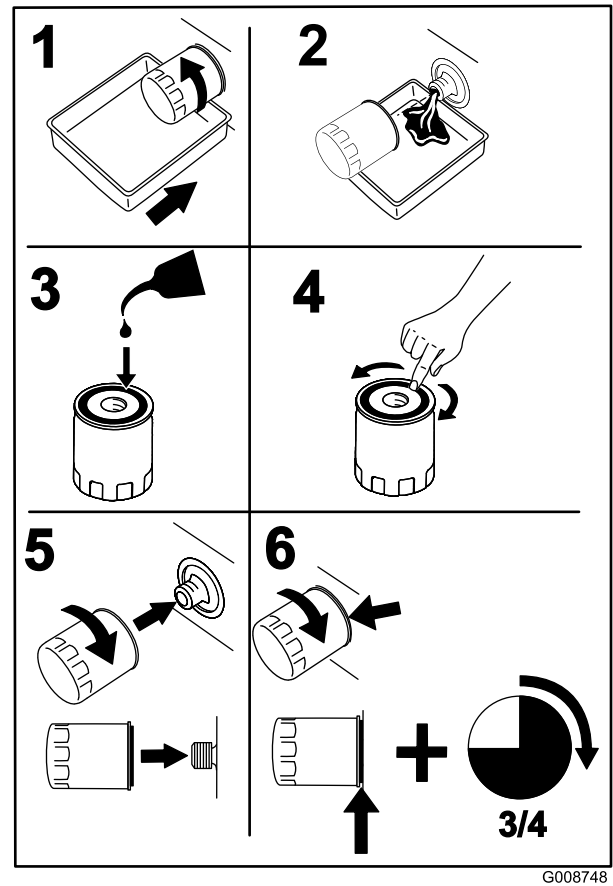

Figure 41
- Place a drain pan under the oil filter, and turn the filter counterclockwise to remove it (Figure 41).